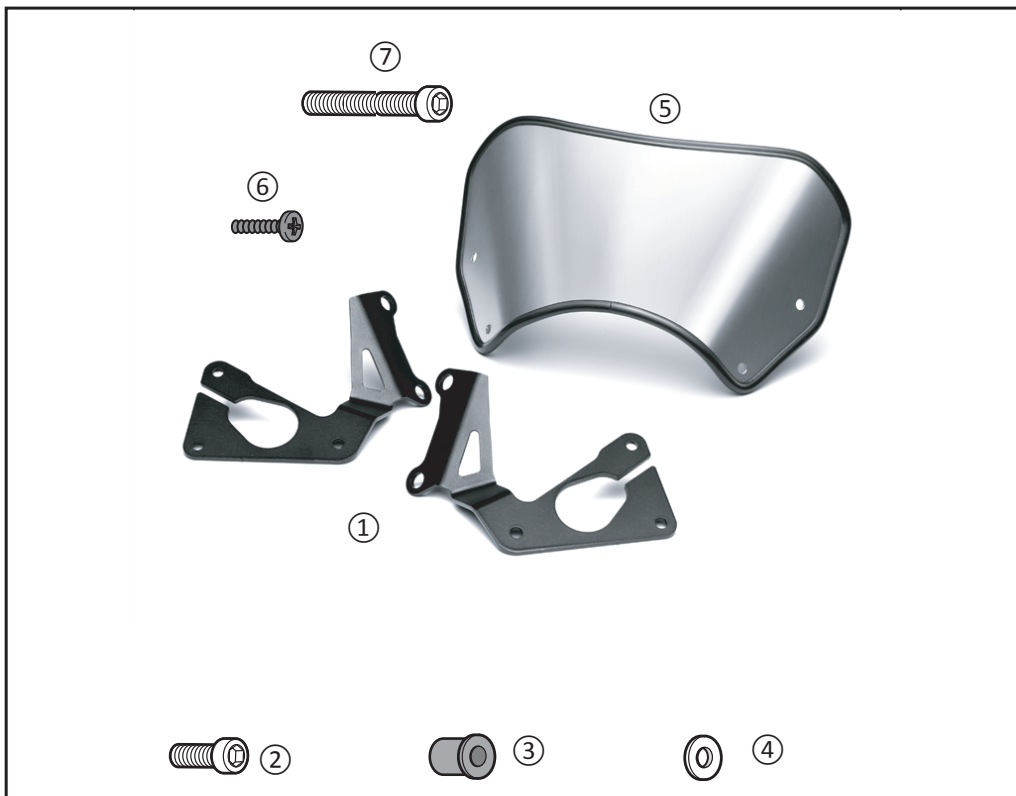

Fig. 1
- 1** Remove 2 stock hex head socket bolts as shown in Fig. 1. Retain stock spacers for reuse.
- 2** Pull the stock turn signal mount away from the headlight bucket as shown in FIG.1. Retain the turn signals and mount plate for reuse.